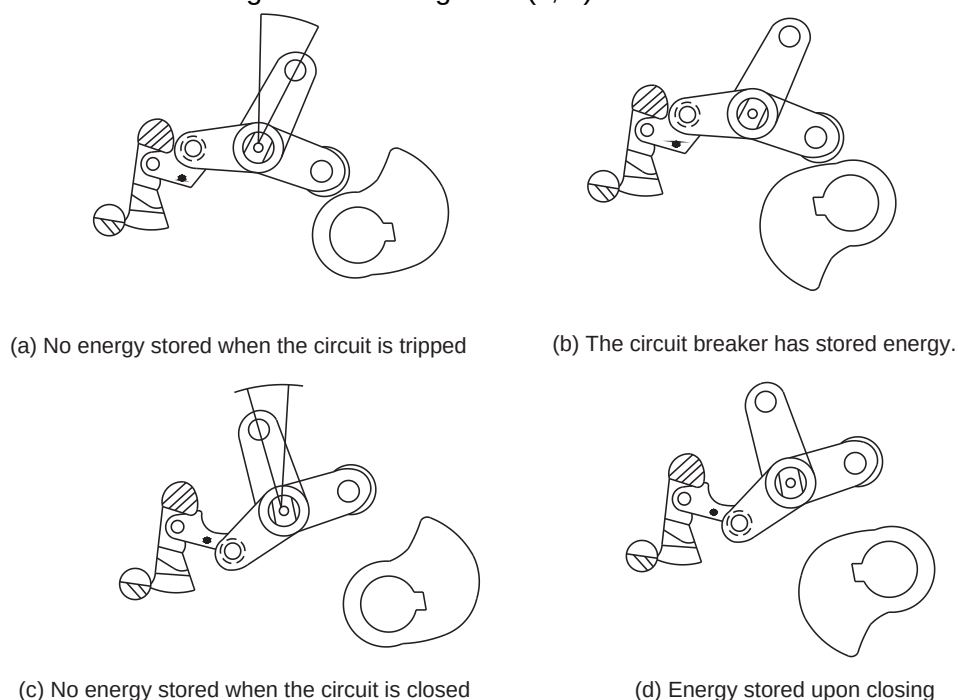
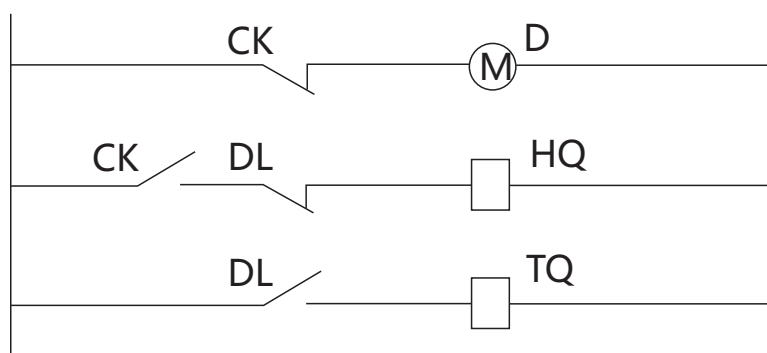

Figure 4. Location and Schematic Diagram
Figure 6. Mechanism Control Principle Diagram
In the figure, the drive block 7, cam 17, and energy storage crank arm 9 are all connected to the energy storage shaft 6 via a flat key. The drive pawl 5 is mounted on the large gear 4 and fitted onto the energy storage shaft 6 via a composite bushing. A one-way bearing is mounted on the gear shaft 3. When the motor is powered on and rotates, it drives the small gear 2 to rotate clockwise. The small gear 2 drives the meshing large gear 4 and drive pawl 5 to rotate counterclockwise. The movement of the drive pawl 5 drives the drive block 7, cam 17, energy storage shaft 6, and energy storage crank arm 9 to rotate counterclockwise. The counterclockwise rotation of the energy storage crank arm 9 drives the closing spring 15 to store energy. When the energy is stored to a certain position, the switching pin opens the drive pawl 5, and at the same time, the limit switch switches, the motor stops rotating, and the spring's excessive force and slow speed cause the roller on the drive block to act on the energy storage holding stop 10. The other end of the energy storage holding stop 10 acts on the closing half shaft 11, making the system stable and the mechanism in the energy storage state. (See Figure 4 (c, d) for energy storage status. The energy storage principle of CTB-S is the same as that of CTB-D's manual energy storage. Pulling the energy storage handle drives the gear shaft and pinion to rotate clockwise via the one-way bearing mounted on gear shaft 3. The rest is the same as motor energy storage.
See Figure 3 (Energy Storage Principle Diagram of the Mechanism). After the mechanism has stored energy, manually pull the closing handle or energize the closing coil to push the closing half-shaft to rotate counterclockwise. The energy storage holding stop loses its balance and rotates counterclockwise, releasing the energy storage state. The closing spring releases energy, driving the cam to rotate counterclockwise. The cam acts on the roller of the output crank arm, causing the output crank arm to rotate clockwise. After the cam has finished acting, the output crank arm has rotated approximately 43 degrees and no longer continues to rotate clockwise. Instead, under the action of the opening spring force, it rotates counterclockwise by 3 degrees and is then balanced by the opening system composed of the opening half-shaft, fastener, and opening stop. The mechanism is in the closing state. See Figure 4 (c, d).
See Figure 4 (c, d). The circuit breaker and mechanism are in the closed state. Pulling the manual trip handle or energizing the trip coil pushes the trip half-shaft clockwise, causing the fastener to lose balance, releasing the closed state. The output crank arm rotates counterclockwise under the force of the trip spring, and the mechanism trips. The electrical principle of overcurrent tripping is shown in Figure 6, the overcurrent protection principle diagram of the mechanism. When the current transformer ratio current reaches a certain value, the overcurrent tripping circuit is connected, the overcurrent coil is energized and actuates, pushing the trip half-shaft clockwise, causing the mechanism to trip.
5.1.4 Reclosing When the mechanism is in the closed, unenergized state (see Figure 4 (c)), the mechanism can continue to store energy, changing it to the closed, energized state (see Figure 4 (d)). At this time, a "trip-0.3S-close-trip" reclosing operation can be achieved.
The control circuit principle is shown in Figure 6.